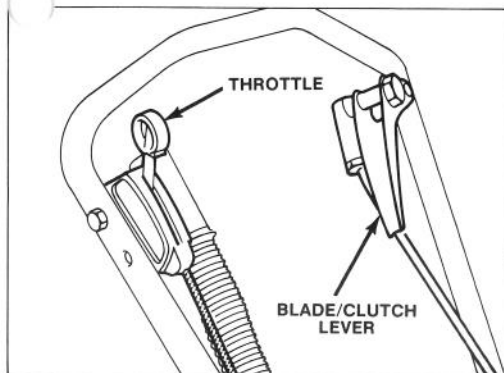
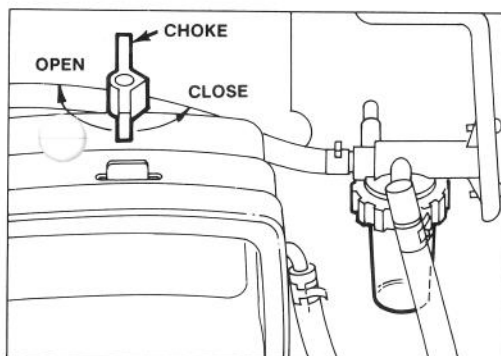
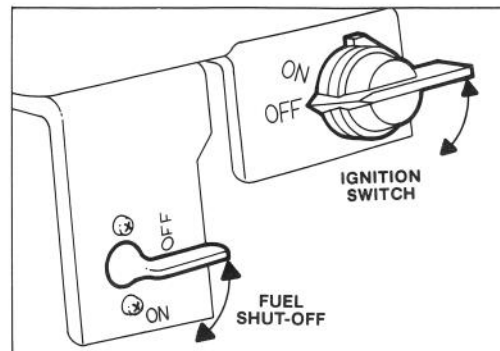
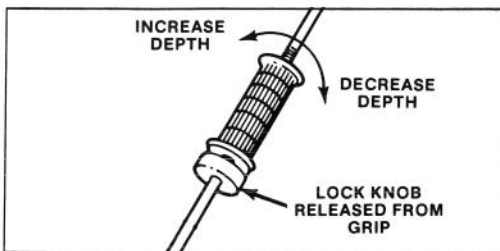

Figure 7
Figure 8
Figure 9
Figure 12
1. **CONTROLS** — Throttle and blade/clutch lever are on upper handle (Fig. 7), depth adjusting grip is at center of rod (Fig. 12) and switch is at side of engine (Fig. 9).
2. **STARTING** — Push wire onto spark plug. Assure blade control is disengaged and move throttle to FAST. Close choke by moving lever to right (Fig. 8). A warm engine will require little or no choking. Rotate ignition switch and fuel shut-off to ON (Fig. 9). Place foot on rear wheel and pull recoil starter. When engine starts, gradually open choke by moving lever to left.
3. **EDGING** — Squeeze blade/clutch lever (Fig. 7) against handle to engage blade and move cutter to preset depth. Release blade/clutch lever to disengage blade and raise cutter head.
4. **STOPPING** — Release blade/clutch lever and move throttle to SLOW (Fig. 7). Rotate ignition switch and fuel shut-off to OFF (Fig. 9).
3. ADJUSTING DEPTH (Fig. 12) — Grasp lock knob and grip. Rotate grip counterclockwise until lock knob is free. Screw lock knob down rod so it is out of the way. Then rotate grip clockwise to increase depth and counterclockwise to decrease depth.